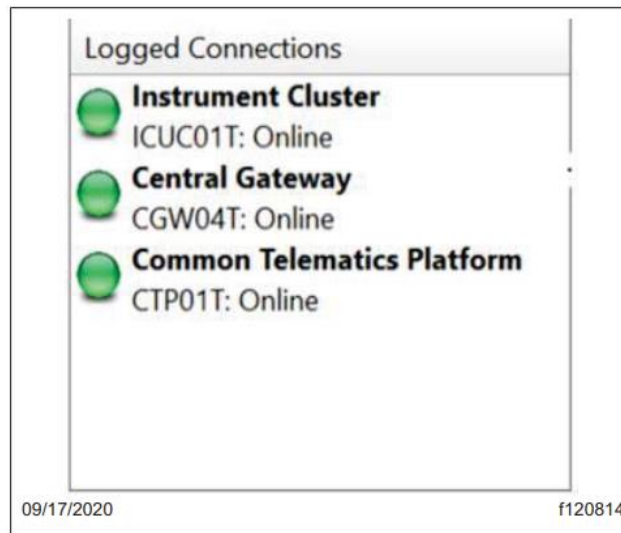

Fig. 14, DiagnosticLink Connections Panel
24. Wait until all three controllers are fully connected and the connection indicators turn green. See Fig. 14